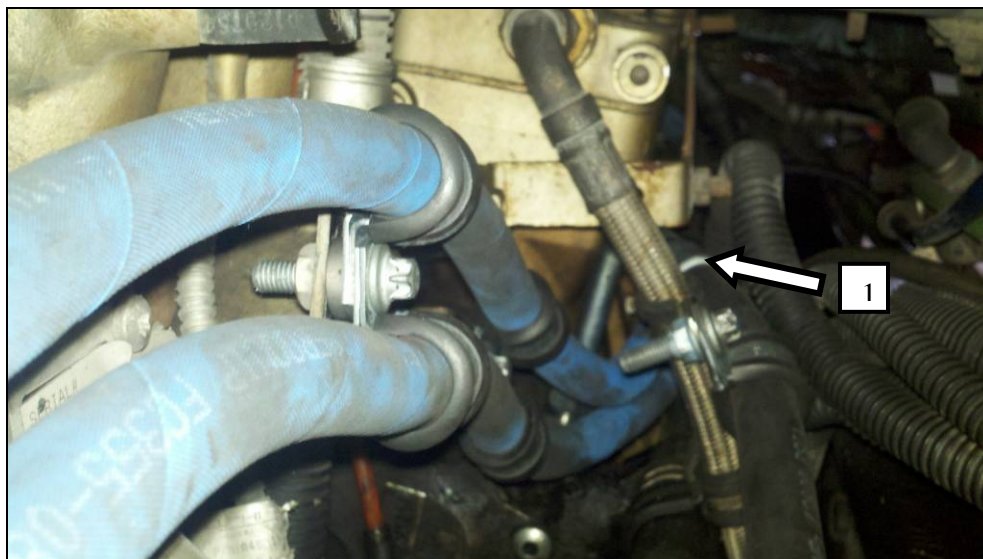

Figure 6 - Torque the Power Steering Pressure Line
36. Angle the power steering pressure line slightly outward toward the frame rail (1). Torque the power steering pressure line at the pump to 42-55 N·m (31-41 lb·ft). See Figure 6.
57. Install fuel return line with banjo bolt (1) and new seal rings part number N000000001070; torque to 16-23 N·m (12-17 lb·ft). See Figure 6.